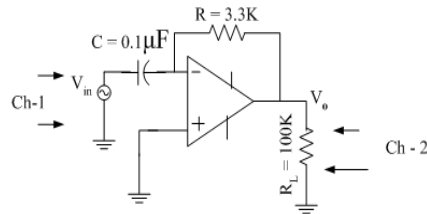

Fig 9: Op-amp Differentiator
1. Implement the circuit shown in Fig. 9